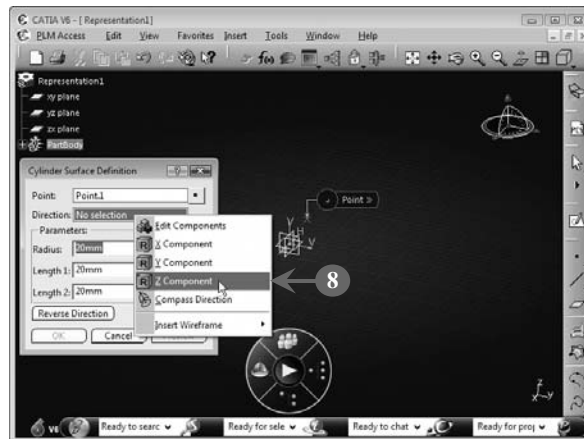

FIGURE 5.49
The center for the cylindrical surface is created and added to the **Point** box in the **Cylinder Surface Definition** dialog box (Figure 5.49).
- Right-click* inside the **Direction** box and *select* the **Z Component** option from the context menu to specify the  $z$ -axis as the direction for the cylindrical surface, as shown in Figure 5.49: